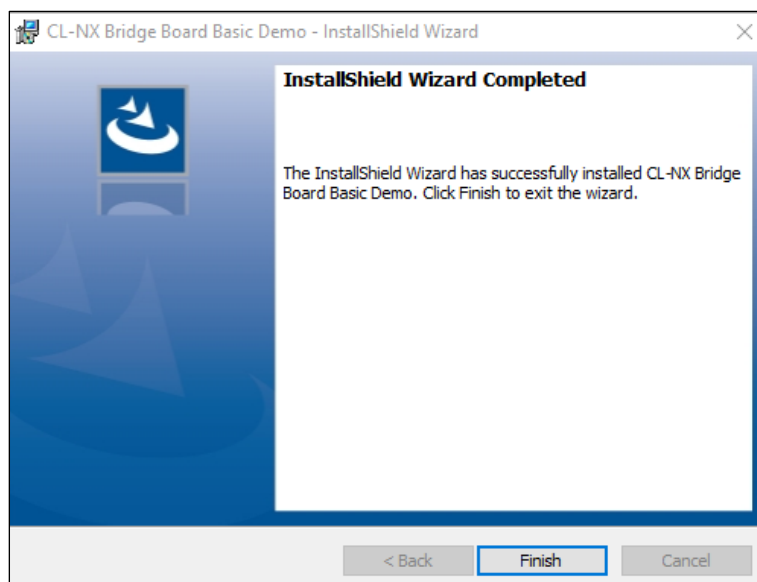

Figure 5.30. Windows Installer: Application Installed
6. Installation of the Basic Demo application starts. Figure 5.30 shows the installation is completed.